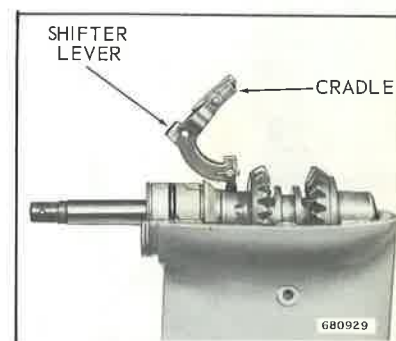
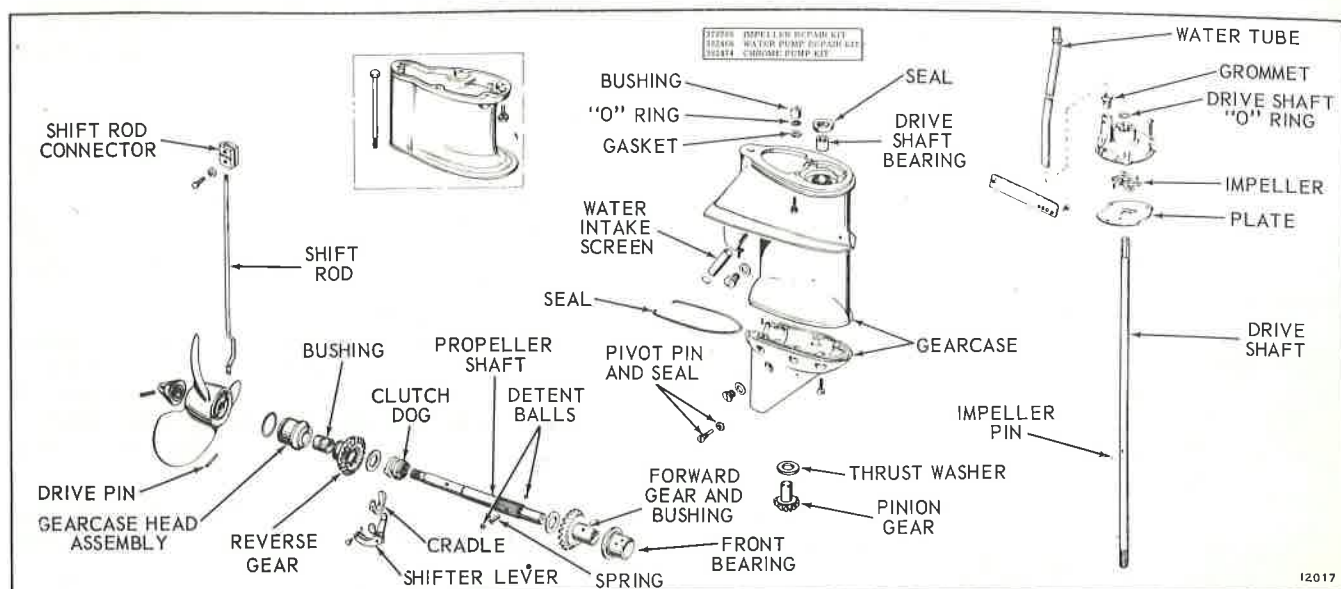

Figure 6-15. Propeller Shaft Components
Figure 6-20. Gearcase Assembly
- d. Swing shifter lever and cradle out of the way. See Figure 6-15.
- e. Lift propeller shaft with all components from the gearcase as an assembly. See Figure 6-15. Disassemble components from propeller shaft. See Figure 6-20. If propeller shaft seal is damaged, replace gearcase head assembly.
Slide clutch dog, groove forward, onto shaft and center over the detent balls (neutral position), Figure 6-21B. This will prevent accidental movement of the clutch dog during assembly and possible loss of the detent balls and spring. Assemble thrust washers, gears, bushing, front bearing, and gearcase head to propeller shaft. See Figure 6-20.